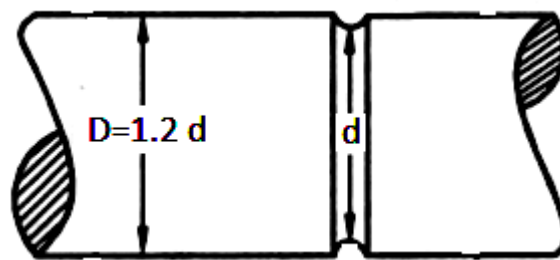

Fig.Q.2A
- 2A.** A round rod of diameter  $1.2d$  has a semi-circular groove of diameter  $0.2d$  as shown in **Fig.Q.2A**. This rod is to sustain twisting moment that fluctuates between 2.5 kNm and 1.5 kNm together with a bending moment that fluctuates between 2 kNm and -1 kNm. Take  $\sigma_y=300$  MPa,  $\sigma_u=450$  MPa and factor of safety = 2.5. Find suitable diameter of rod. Assume size and surface finish factors as 0.85. **(05)**